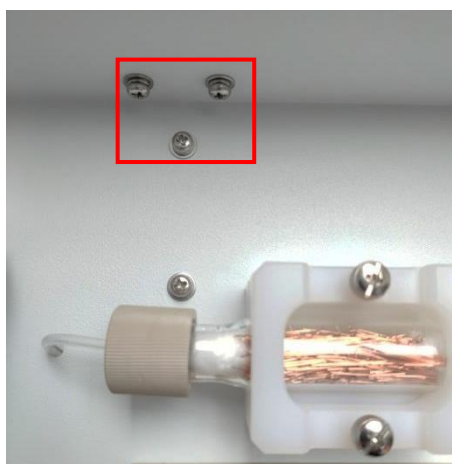

Fig.6.47
3) Unscrew the three fixing screws and remove the pump (Fig.6.47)